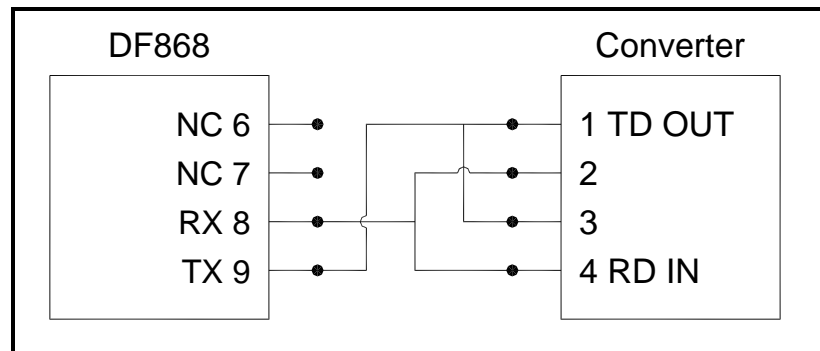

Figure 1-4: Typical RS485 Connections
3. Feed one end of the cable through the conduit hole, wire it to terminal block J1 and secure the cable clamp. Connect the other end of the cable to the converter, as shown in *Figure 1-4* below.